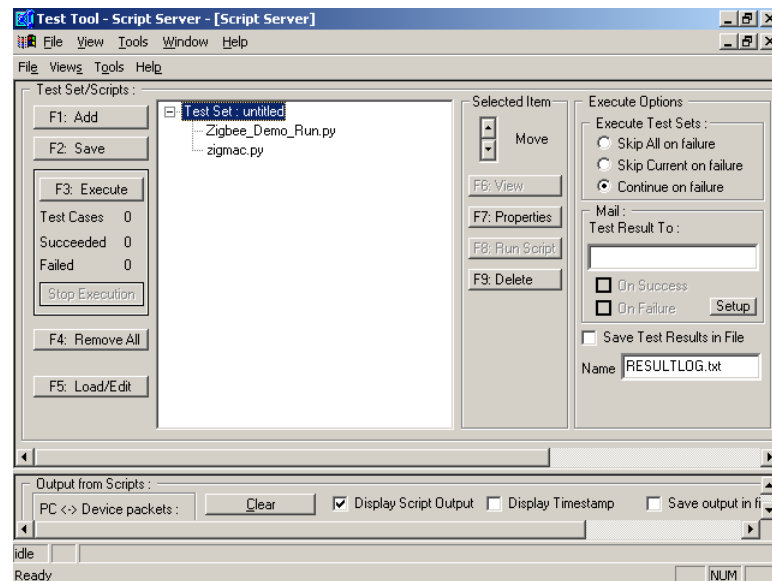

Figure 21 Script Server Window
1. Run the “Script Server” application from the Test Tool “View” menu and the “Script Server” window appears as shown in Figure 21.